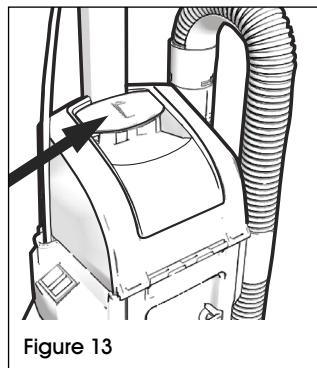

Figure 13
- Pull up on the dust bin cover latch release and fully open the cover to expose the bag. (See Figure 13)